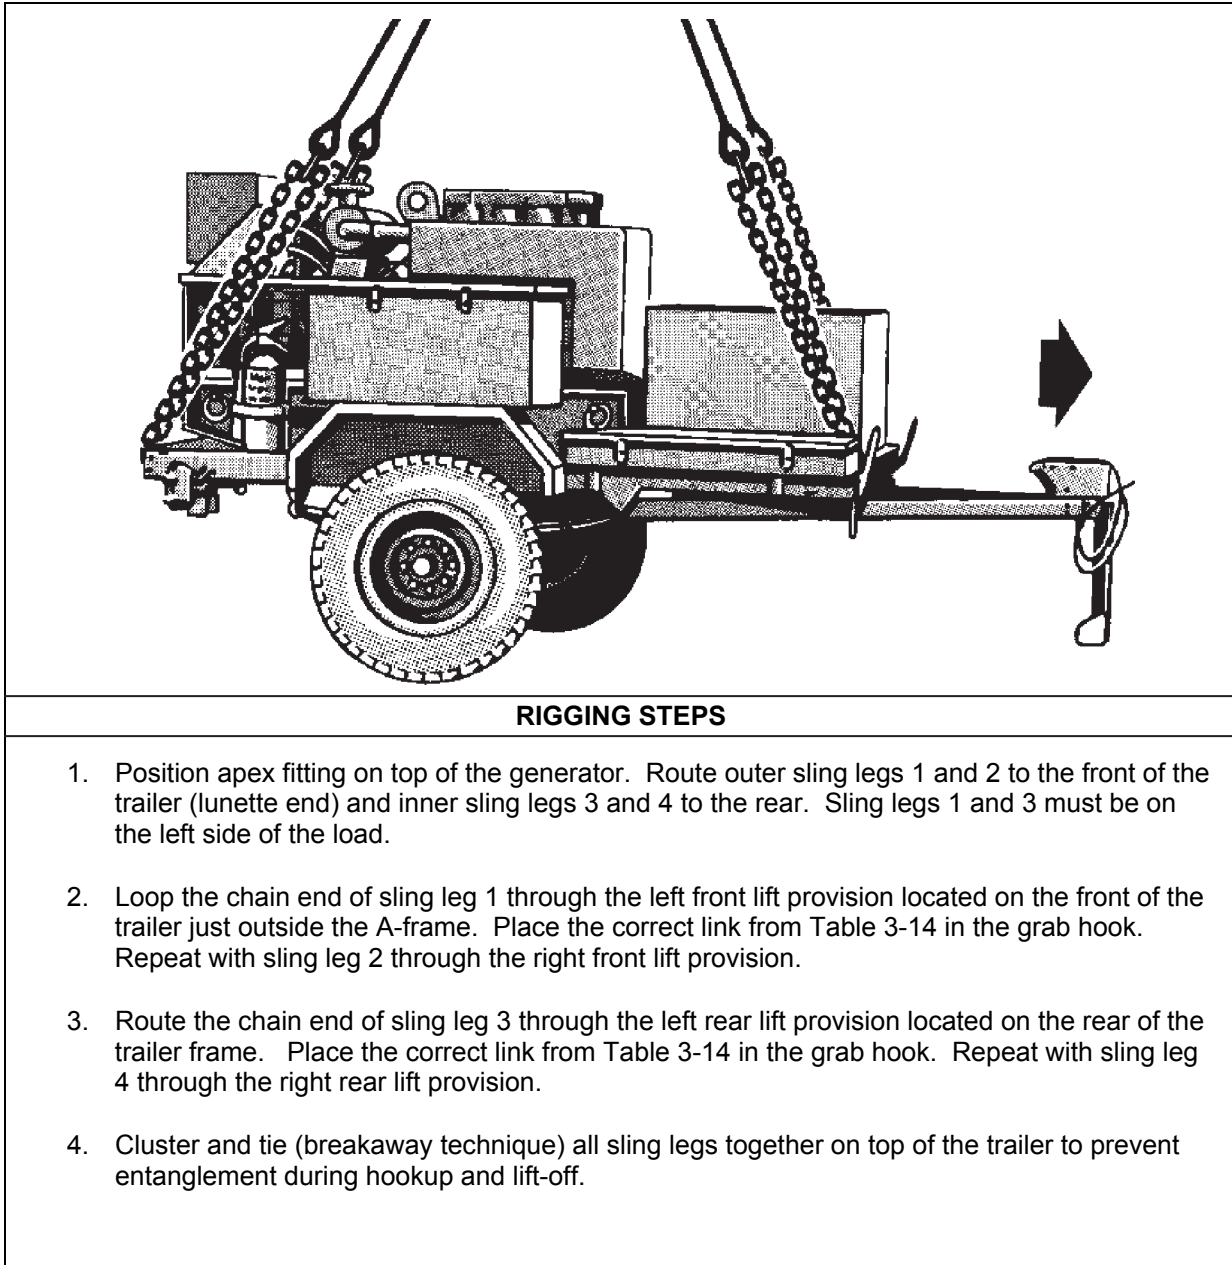

Figure 3-14. M116A2 Trailer with M894 18,000-BTU Air Conditioner and MEP-003A Generator
- **Rigging.** Rig the load according to the steps in Figure 3-14.